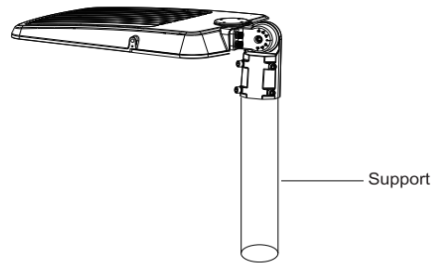

Figure 6
Step 2: Place the bracket into the pole and lock the four bolts.(Figure 6)